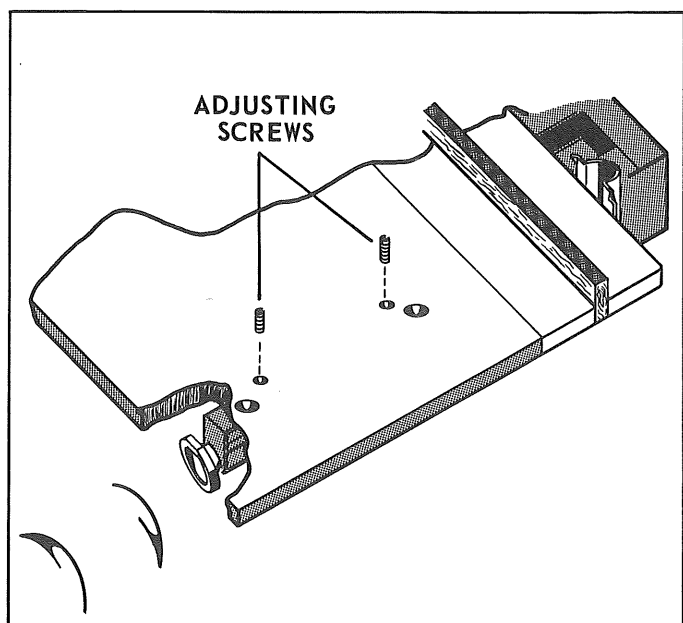

FIG. 15
2. Insert set screws into holes indicated. These screws are used to level the table. Fig. 15.